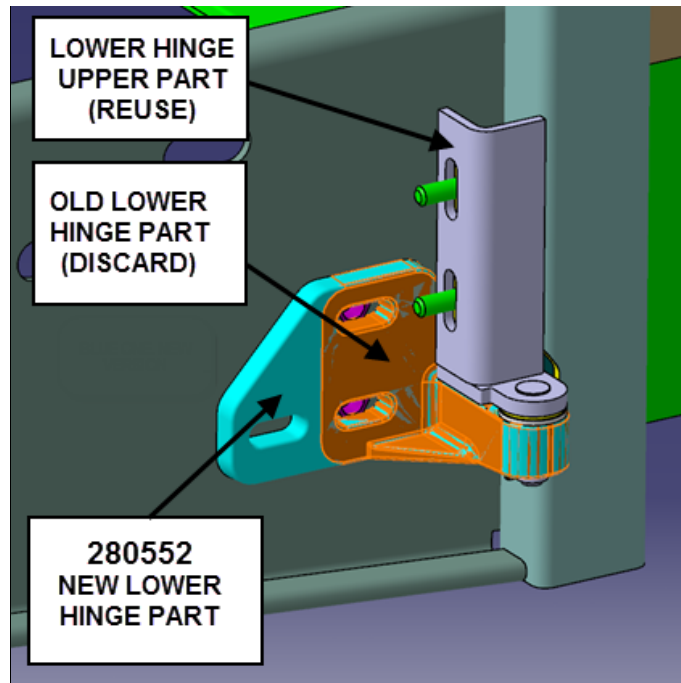

FIG.12 NEW VS OLD LOWER HINGE PARTS
4. Discard the *lower* (vehicle structure) part of the lower hinge and replace it with the new **280552** part supplied with the kit (reuse the door part of the hinge but discard hardware Fig.12).